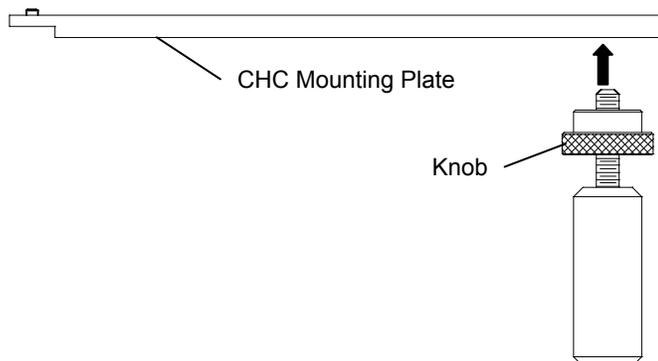

Figure 24 • Installing Foot Assembly
- Thread the foot assembly onto the mounting plate (see Figure 24).